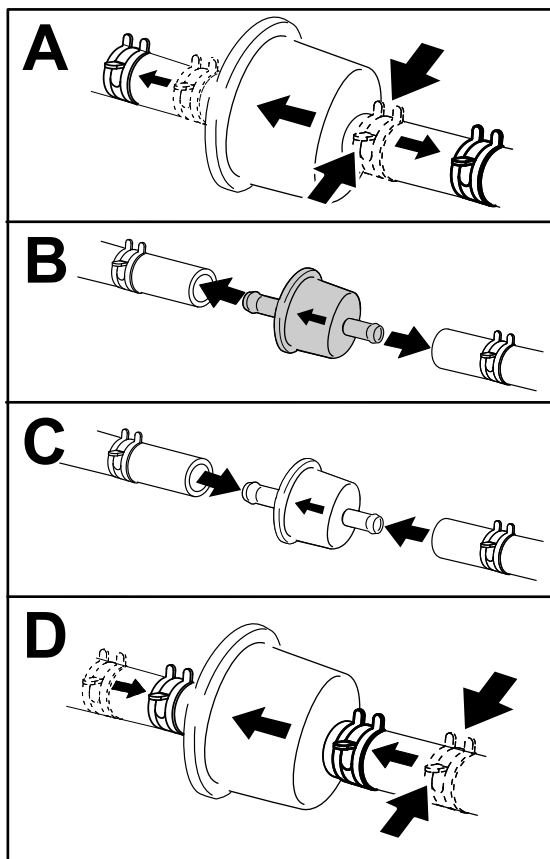

Figure 47
3. Replace the filter (Figure 47).